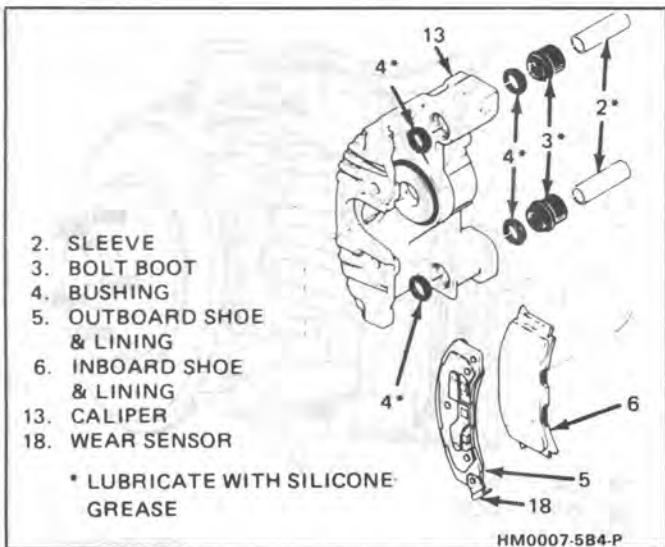

Fig. 7 Shoe and Lining Assembly
Figures 7 through 10
2. Outboard shoe and lining (5) (Figures 7 & 8).
- Use screwdriver to disengage buttons on shoe from holes in caliper housing (13).
3. Inboard shoe and lining (6).
4. Bushings (4) from grooves in mounting bolt holes.